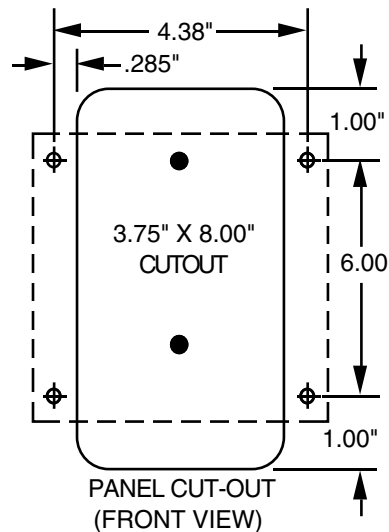

Figure 114. Drilling Guide for Mounting a HHM as a Permanent Workstation
2. Cut an opening 3.75" wide x 8" high in the panel. Drill four mounting holes. See Figure 114.